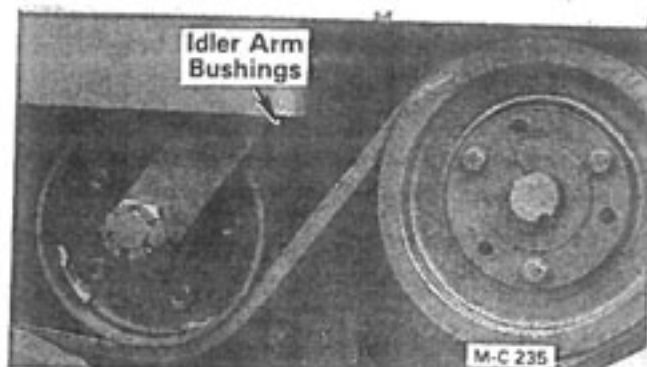

Figure 24 - Two on Model 2206 & 2408
1. Idler arm bushings. One fitting behind the belt guard cover, see Figure 24 (two on Model 2206 & 2408).